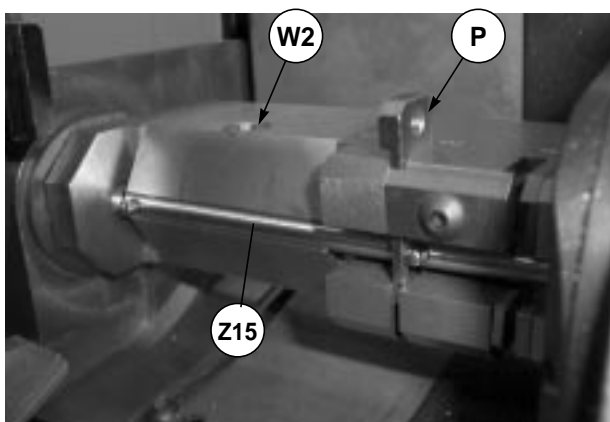

Fig. 100
Template Z13 = fit in place of the cutter (fig. 100).
Template Z15 = fit on the S1-K2 clamp as if it were a key (fig. 100). Use the plate (P) as a point of reference in position 2 with the second pin on the template up against it. Tighten the screw (W2) with the (T4) wrench. Replace the (T4) wrench in its seat.